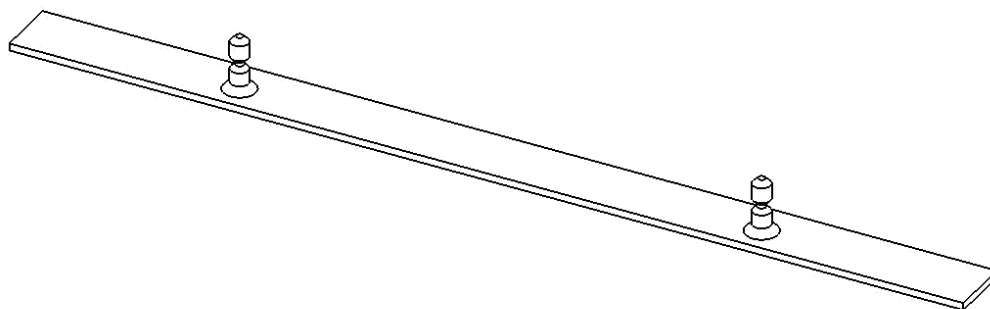
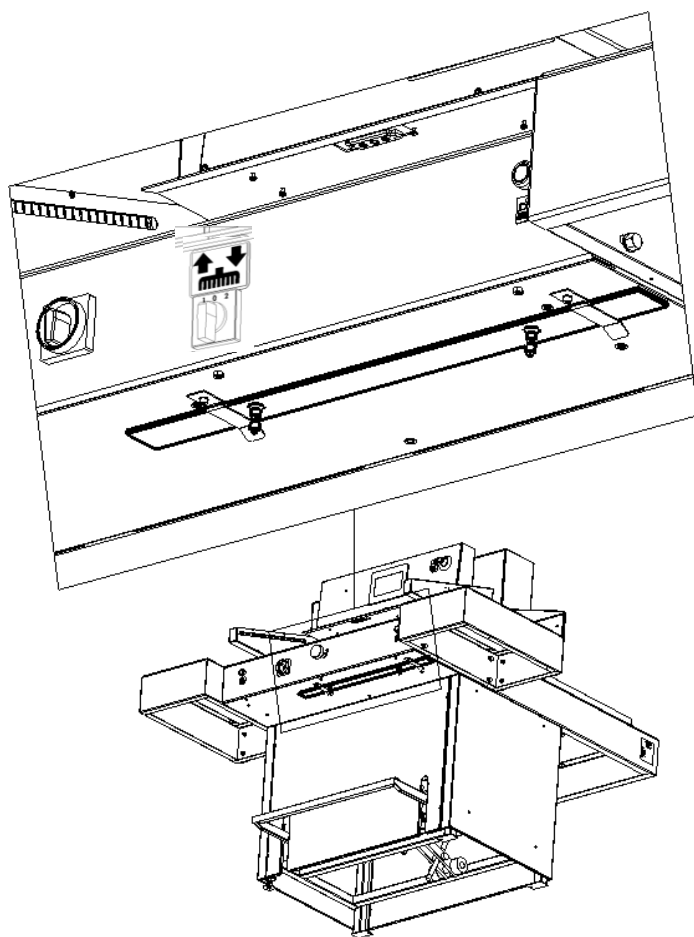

Figure 39. False clamp (pressure bar)
Figure 40. Storage location of the False Clamp when not in use.
The False Clamp (Fig. 39) is stored under the front table in the place shown in Figure 40.
**The removable insert must be re attached under the front table! (Fig. 40).**